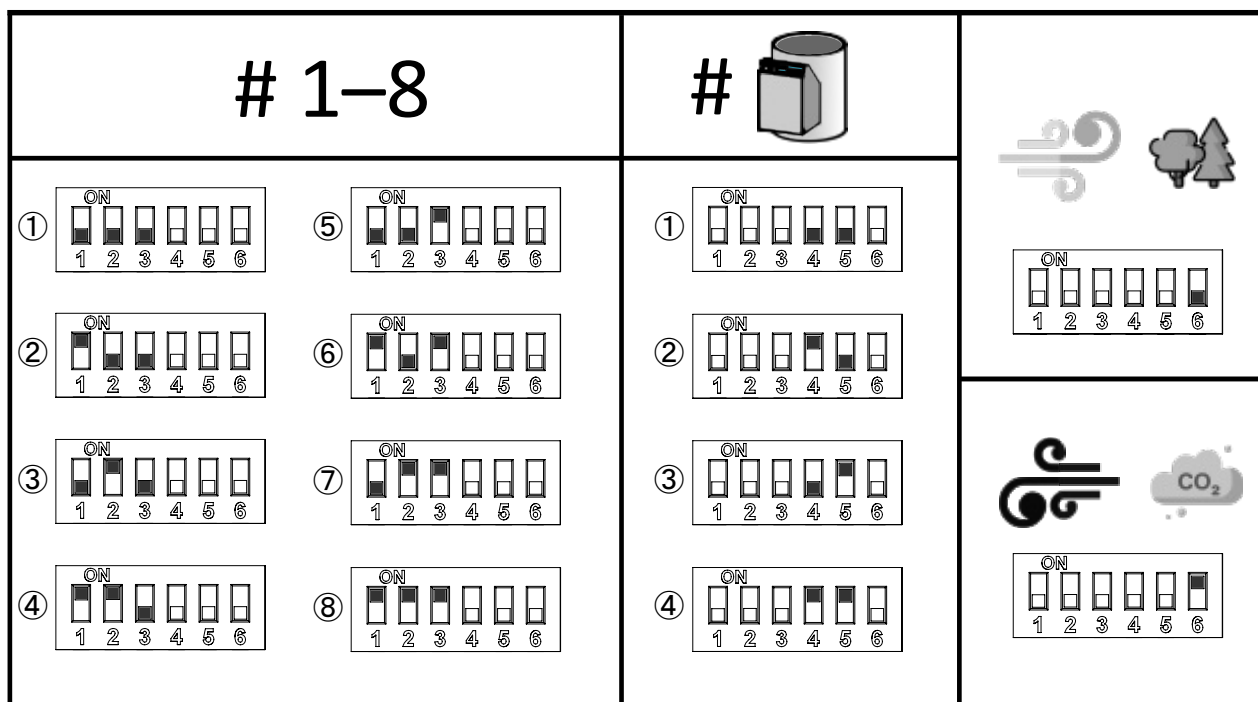

Figure 23 – Setting a valve DIP switch
**!** When configuring individual zones pay attention to correct positions of switches. For example when setting up zone no. 5, this zone (i.e. corresponding DIP switch combination) must be on the control panel and the valve (and if applicable on the extract button). The unit then pairs all components automatically based on their identical DIP switch configuration. The extract/supply configuration is set by switch no. 6 of the DIP on a valve (see Fig. 23). If there is more than one valve within a zone, each valve must have its own unique address configured. In case of three valves per zone, their addresses can be set as 1, 2, 3 or 2, 3, 4 or 1, 3, 4 - but each address must be unique!